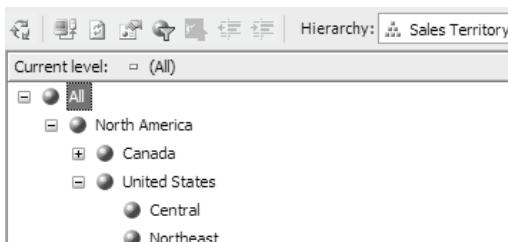

Figure 4.8 The Sales Territory multilevel hierarchy
6. Process and browse the Sales Territory dimension. Reconnect. Now, the Hierarchy dropdown should default to the Sales Territory multilevel hierarchy. It should look like the one shown in Figure 4.8.
As you know by now, in UDM, a dimension is a container of attributes, hierarchies, and member properties. You can review and set some global dimension properties by clicking on an empty space in the Hierarchies and Levels pane and using the BI Studio Properties window. One property you may need to change is *AttributeAllMemberName*. SSAS automatically generates a top (All) level for attribute and multilevel hierarchies. As I explained in chapter 1, the (All) level has a single member named by default *All* (see Figure 4.8) that gives us the total aggregated value of the values of all members in the hierarchy.